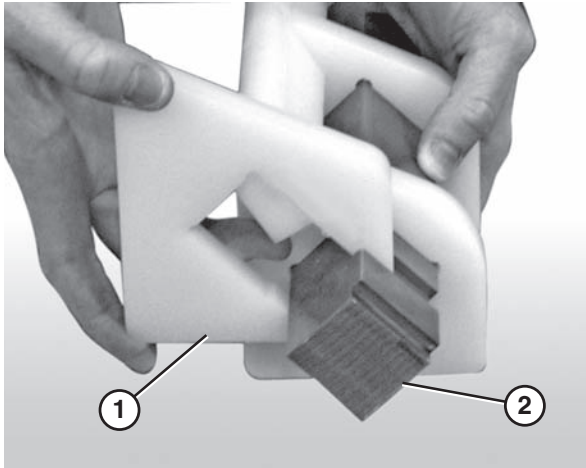

Figure 79
3. Attach the nose bar tracking pucks (Figure 79, item 1) to the nose bar drive post (Figure 79, item 2).